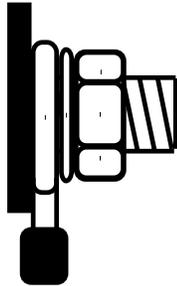

Figure 1-9 DC Cable Connections
Refer to Figure 1-9.
11. Install the lock washer and nut that are supplied with the inverter. Tighten the nut to a torque of 108–120 in-lbf (12.2–13.6 N-m). Make the connection snug enough so the ring terminal does not move around on the DC terminal, but do not overtighten. See Figure 1-9, “DC Cable Connections” on page 1–27.